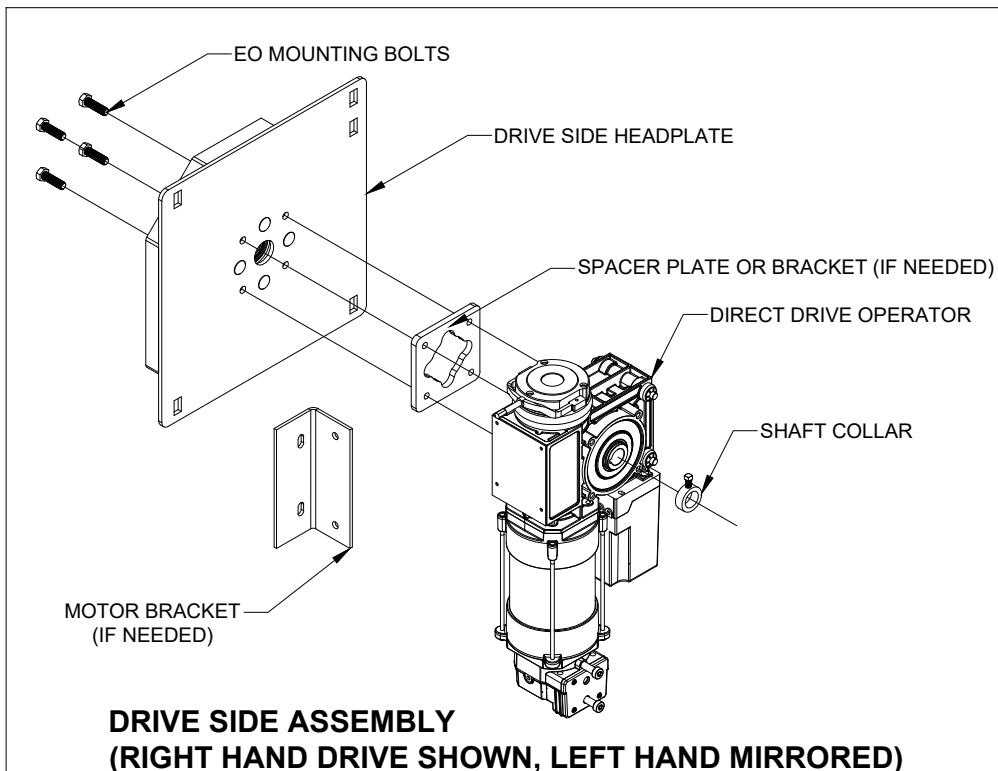

FIGURE 5
- a. Assemble motor onto correct side headplate as shown in Figure 5.